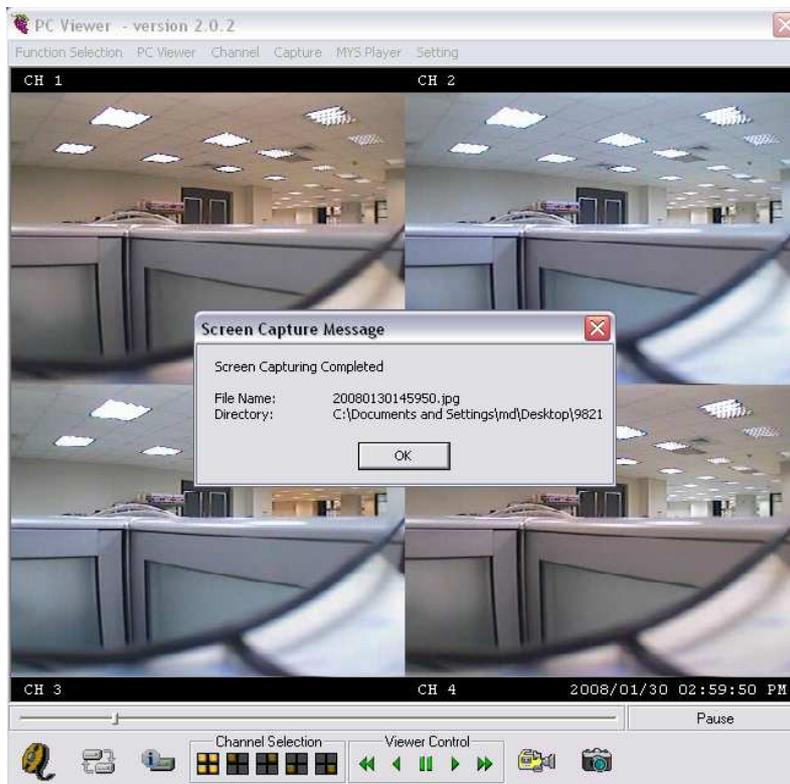

Figure 2
-  : Click this button to capture images as BMP file, graphic shown by “Figure 2” will be shown and PC Player Software auto creates storage content “9821”.